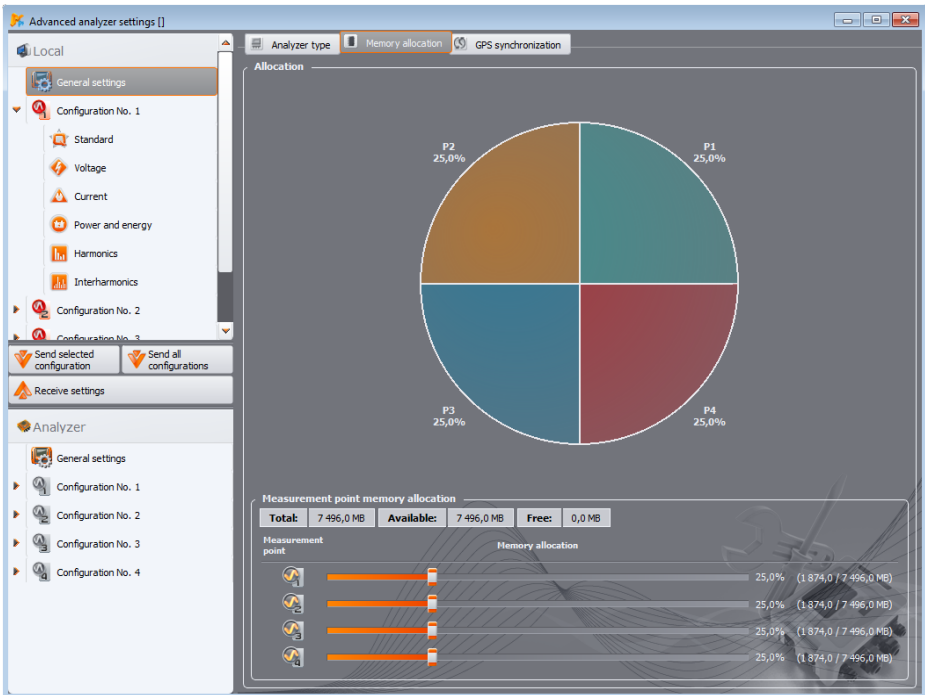

Fig. 19. Memory allocation.
- **PQM-701 PQM-702 PQM-703 PQM-710 PQM-711 MEMORY ALLOCATION:** this tab (Fig. 19) allows user to allocate space of the analyzer's memory card to the individual measurement configurations. Use four sliders to allocate desired amount of memory to a given configuration (in MB and %). In the middle part of the screen you will see a visualization of memory allocation. All available card memory (100%) may be freely divided among the four configurations. It is possible to allocate 100% of the memory to a single configuration; in such case recording in other configurations is impossible - for them only "live" preview of mains parameters is available. All measurement configurations have linear recording in the memory, when the memory allocated to a given configuration is used up, the recording stops. Please remember that modification of memory allocation will require deleting all data from the memory card. Thus, it is advisable to download such data and save it on a local disk. New memory allocation is sent to the analyzer after clicking **SEND** button (along with configurations of all measurement points).